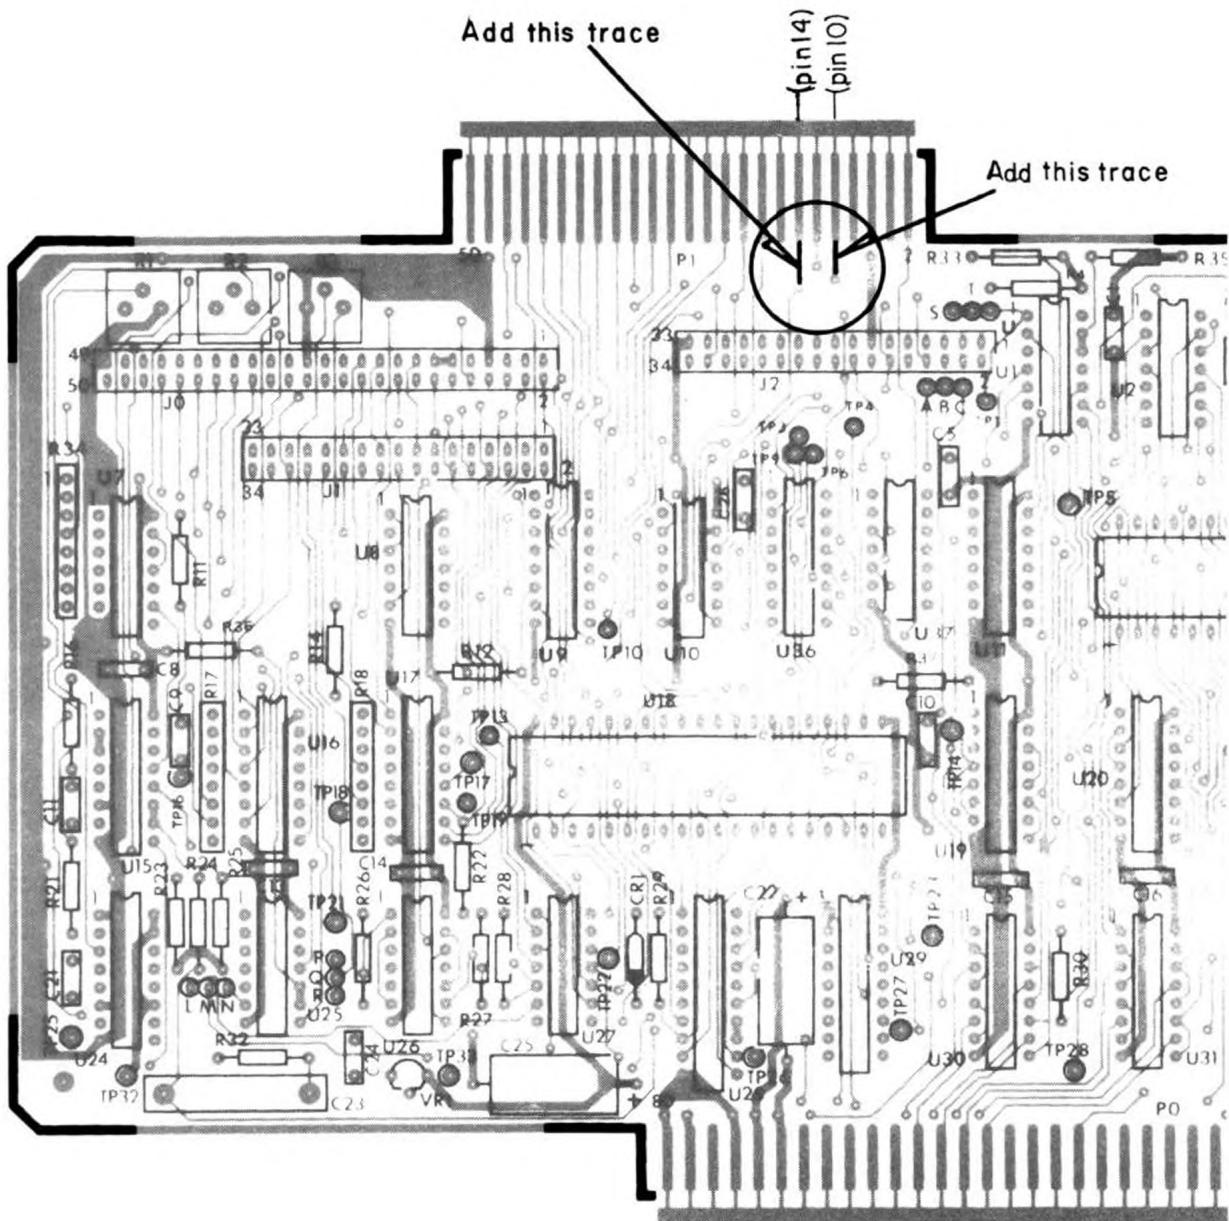

Figure 1
**PROCEDURE:** Refer to Figure 1 for the location of these traces. Run a jumper from pin 14 of connector P1 to the feedthru on the PCB that is directly in from the connector. Also run a jumper from pin 10 of connector P1 to the feedthru that is directly in from the connector.